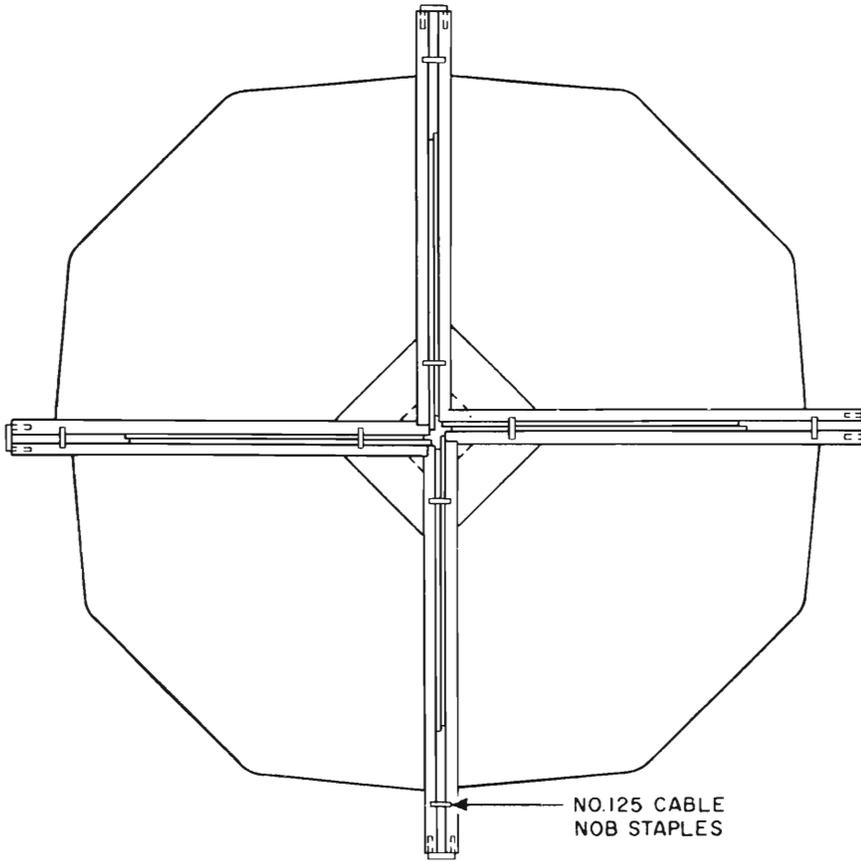

Fig. 6 — Four 20-Type Shelves in a Free-Standing Position
- Four in a free-standing position, Fig. 6.